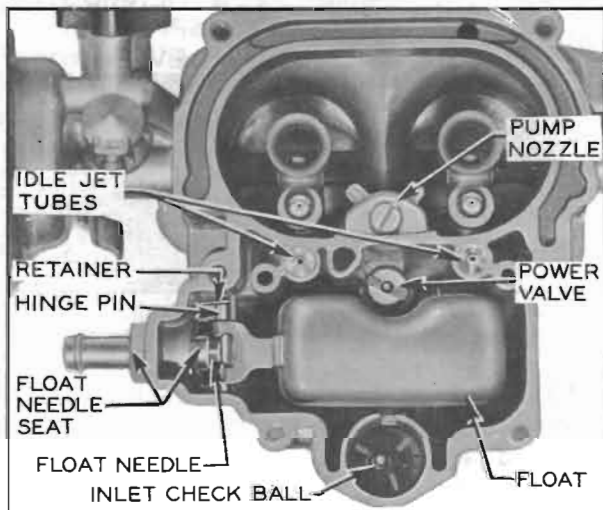

Figure 3-71—Main Body Parts
8. Remove float needle seat and connector fitting together, with gasket and float needle. Remove float retainer, float, and hinge pin. See figure 3-71.
ball in discharge well. Install lower pump spring in plunger well. Install pump discharge nozzle and screw using new washer and gasket. See figure 3-71.